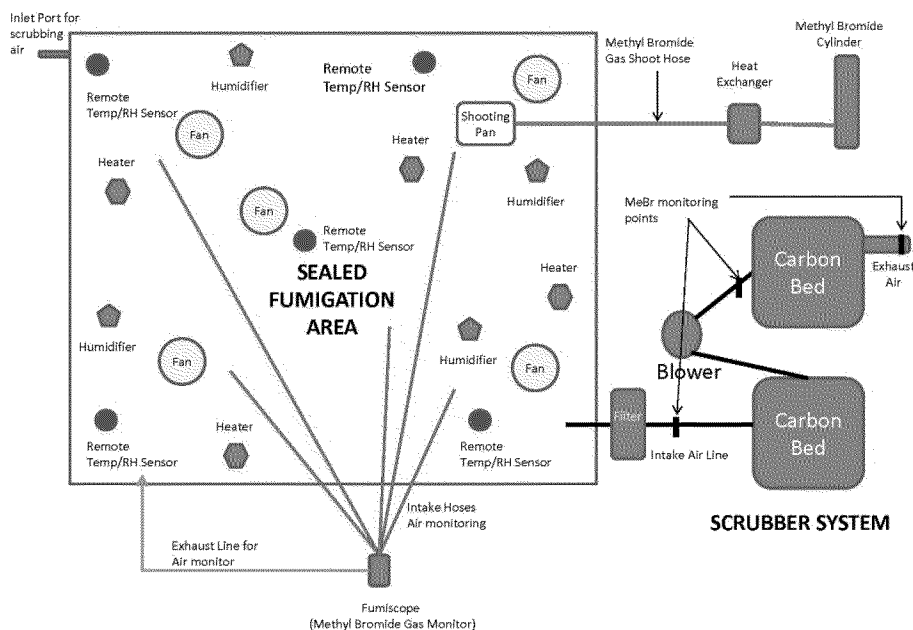

Figure 1. Generic Diagram for Methyl Bromide Fumigation
Below are the steps, from sealing the structure to placement of biological indicators, required prior to performing the fumigation. Figure 1 shows the layout for a generic MB fumigation. Site-specific conditions may require more or less of each figure element (i.e., humidifiers, heaters, etc.).
It is highly recommended that a scrubber system is utilized to absorb the MB prior to its release to the atmosphere for personnel safety and the protection of the stratospheric ozone layer. For MB, the scrubber consists of an activated carbon system (ACS). Approximately 10 kg (22 lb) of activated carbon is required for the adsorption of 1 kg (2.2 lb) of MB, but this adsorption capacity varies greatly depending on carbon type, moisture content, air flow, temperature, humidity, etc. It is recommended that the carbon be distributed in at least 2 vessels, as shown above in Figure 1. At a MB fumigation concentration of 212 milligrams per liter (mg/L) MB, approximately 132 lb of activated carbon would be required for a 1,000 cubic foot fumigation area. It is recommended that approximately 10–20% additional carbon be utilized as a contingency. Note that activated carbon may only be feasible for smaller fumigation volumes as the quantity required for larger volumes may be too large and expensive to be practical.
The scrubber should be placed adjacent to the structure being fumigated and all fittings and piping will pass through into the structure and be tightly sealed. A blower is utilized to pull air from the structure and force air through the activated carbon system. Scrubbing will continue for 24 hours or until the MB has reduced to ≤ 100 ppm or until the scrubber stack concentration is greater than the structure MB concentration. A monitoring and sampling port for measuring MB concentrations should be included on the exhaust port. Figure 1 shows the setup for a typical air scrubber system. Monitoring of low levels of MB at the stack can be conducted with a calibrated flame ionization detector.
- The hoses will be connected to a heat exchanger (heated, coiled tubing) that is powered by propane or electricity. The MB cylinder is connected by hose directly to the heat exchanger which is connected to the shooting hose (see Figure 1).
- The line that runs from the MB cylinder into the heat exchanger/volatilizer must be a 3,000-psi hydraulic high pressure hose with a 3/8-inch interior diameter (ID) or larger, or in accordance with the manufacturer's MB gas label.